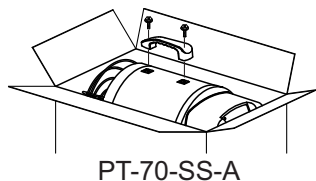

Figure 4. Attaching the handle
1. Attach handle by lining up holes of handle with the holes in the upper shell of heater (See figure 4).